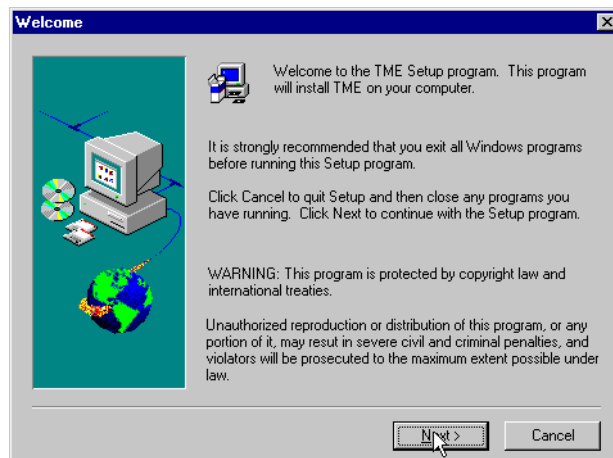

Figure 13. Welcome
3. Click **Next** to start installation as shown in Figure 13.